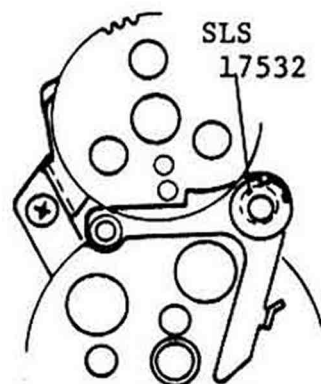

Fig. 54
- a. Adjustment is made by turning the SLS17532 Ecc.collar as shown in Fig. 54.